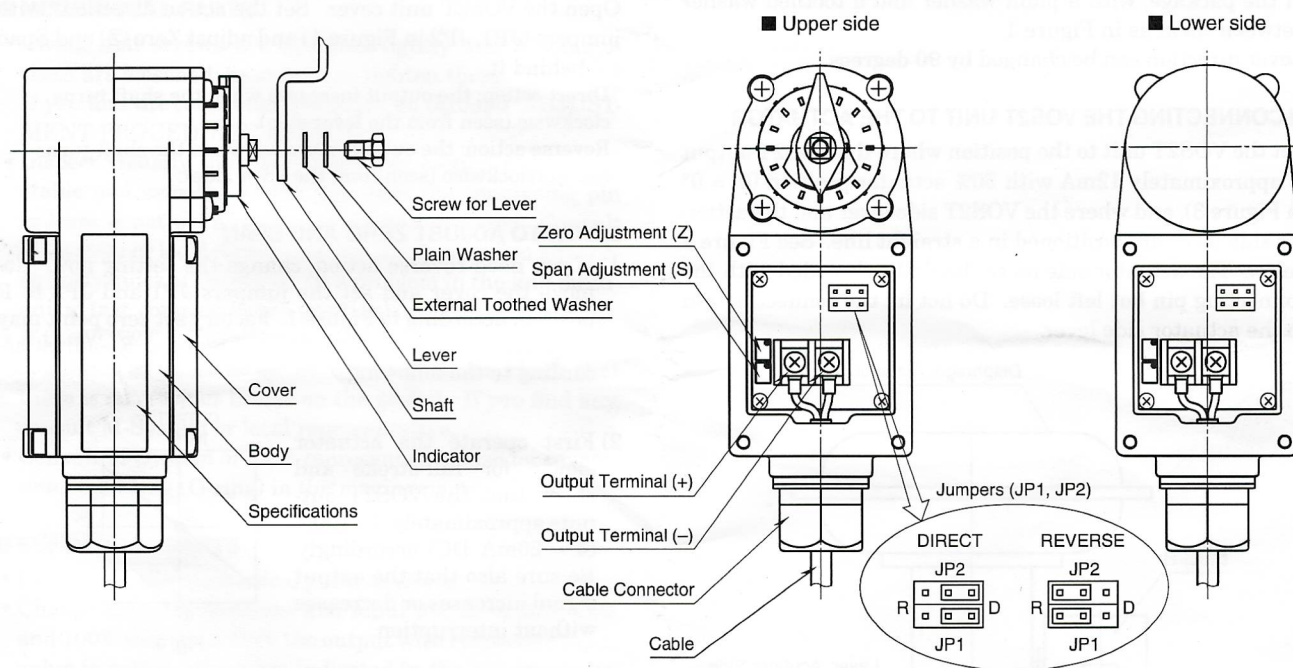

Figure 1
Connect the lever to the VOS2T unit with a screw included in the package, with a plain washer and a toothed washer between them as in Figure 1.
Open the VOS2T unit cover. Set the action direction* with jumpers (JP1, JP2 in Figure 1) and adjust Zero (Z) and Span (S) behind it.
1) If you need reverse action, change the setting now. Remove the cover and set the jumpers JP1 and JP2 to R position according to Figure 1. Factory set zero point may be slid by changing the action direction. Re-adjust according to the following.